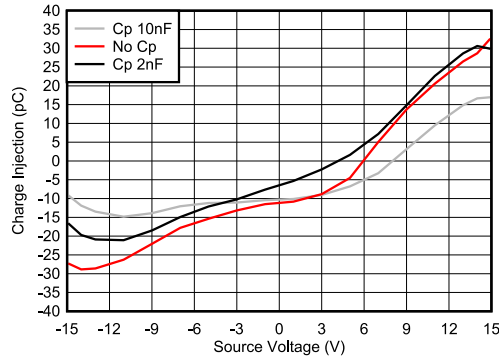

図 7-2. Charge Injection Compensation
The TMUX7234 contains specialized architecture to reduce charge injection on the source (S_x). To further reduce charge injection in a sensitive application, a compensation capacitor (C_p) can be added on the drain (D). This will ensure that excess charge from the switch transition will be pushed into the compensation capacitor on the drain (D) instead of the source (S_x). As a general rule of thumb, C_p should be 20x larger than the equivalent load capacitance on the source (S_x). Figure 7-2 shows charge injection variation with different compensation capacitors on the drain side. This plot was captured on the TMUX7219 as part of the TMUX72xx family with a 100pF load capacitance.